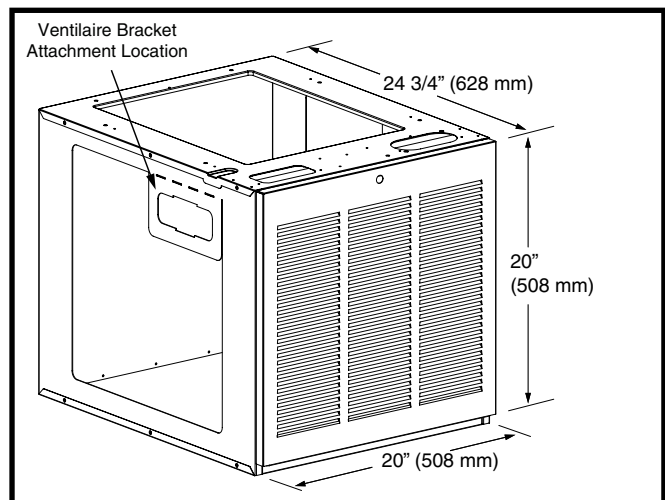

Figure 4. Optional Upflow Stand
- Stand (Figure 4) will use filters provided with the unit. Remove any filters in the furnace and follow proper installation. See instructions supplied with the upflow stand for additional details.